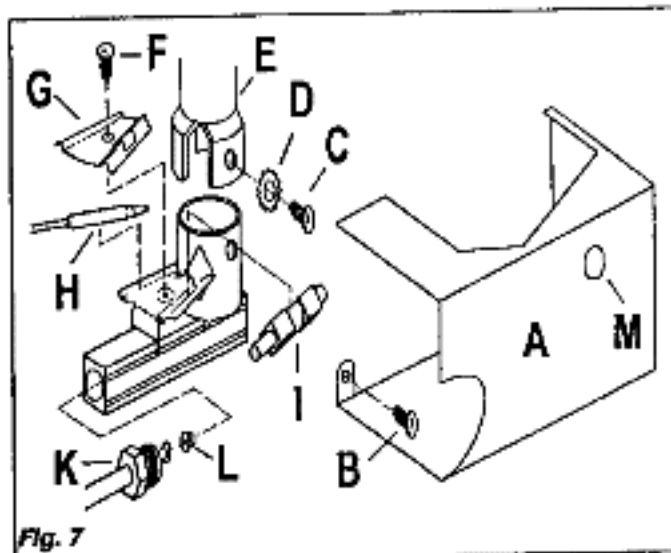

Fig. 7
b) Cleaning of burner, burner jet: (refer to fig. 7)
3. By using a cross-headed screwdriver, remove the screw (B in fig. 7) and carefully withdraw the burner cover box.
4. Place a piece of paper or cloth between the boiler tube (E in fig. 7) and the burner assembly, to catch falling deposits.
1. If the connection cable between the piezo igniter (C in fig. 6) and the electrode (I in fig. 7) is not defective or loose. If it is broken or if the insulation of the wire is defective, replace the connection cable.
3. If the electrode (I in fig. 7) is defective, screw out the burner as described in item 22b. Carefully loosen the metal plate (G in fig. 7) by loosening screw (F) and take out the defective electrode. Put the ignition cable on the new electrode and fix the metal plate (G).